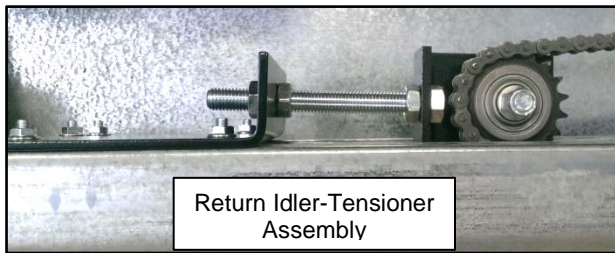
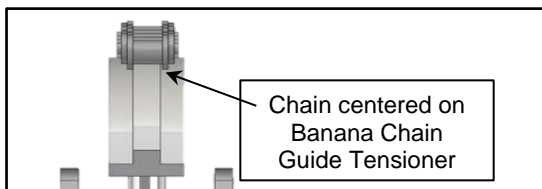

Figure 22
Figure 23
4. Inspect the drive chain. Check that the chain is routed properly through the head assembly. The chain should not be cracked, worn, too loose, or damaged. Also check for any damaged or missing links/connectors. Replace any drive chain parts as necessary. (See Figure 22 and Figure 23.)